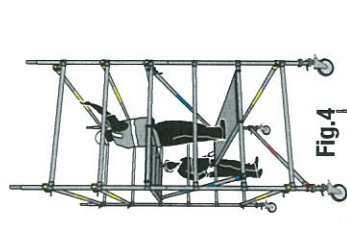

Fig.4
**10.** Relocate and stagger the temporary platform to nominally 1m above the ground. This platform will act as fall prevention. Install an access ladder through the opening section of platform – See Fig.4
**11.** Erect horizontal braces (yellow) as guardrails and mid rails for the working platform whilst standing on the temporary platform. See Fig.4